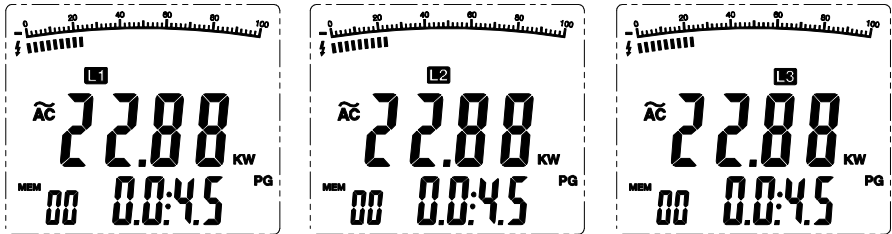

Figure 8
2. Press the **L1-L2-L3** button to choose the first phase **L1** (see figure 8). The dual displays show the active power kW value and the Phase Angle (PG) value.